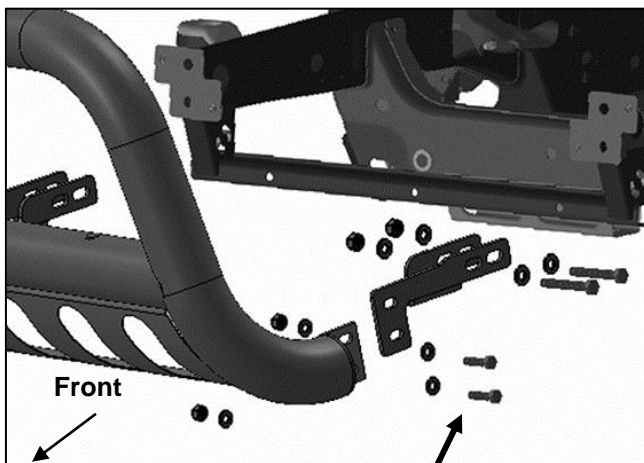

Fig 9
5. With assistance, hold the Bull Bar up in position on the outside of the Mounting Brackets. Bolt the Bull Bar to the Brackets with (4) 10mm x 30mm Hex Bolts, (8) 10mm Flat Washers and (4) 10mm Nylon Lock Nuts, **(Figure 9)**. Do not tighten hardware at this time.